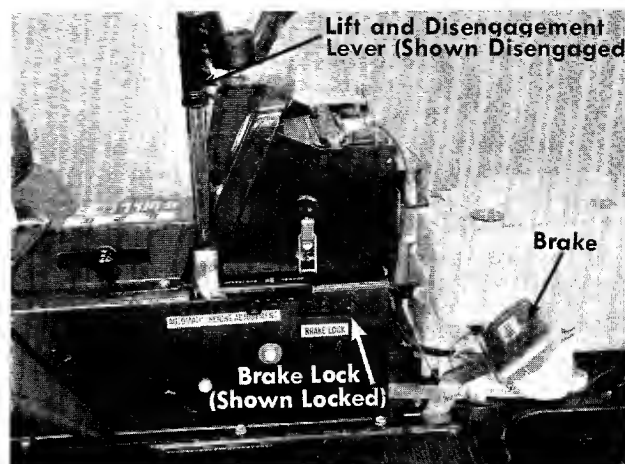

FIGURE 7. RIGHT HAND CONTROLS
- c. **Brake.** The brake pedal is located on the right hand side of the mower and is operated by depressing it with your right foot. See figure 7.
d. **Brake Lock.** The brake lock is located on the right hand side of the mower. To lock the brake, depress the brake pedal and lift up the lock button. The pedal will stay depressed. To release, depress the pedal. See figure 7
l. Lift and Disengagement Lever. It is used to raise the cutting deck. Pulling it all the way back and locking it disengages the blades. The engine will not start unless the lift and disengagement lever is in the disengaged position. See figure 7.
Step 3. Place the lift and disengagement lever in the **DISENGAGED** position. See figure 7.
To stop the blades, move the lift and disengagement lever (figure 7) into the **DISENGAGED** position. This raises the deck and disengages the blades.